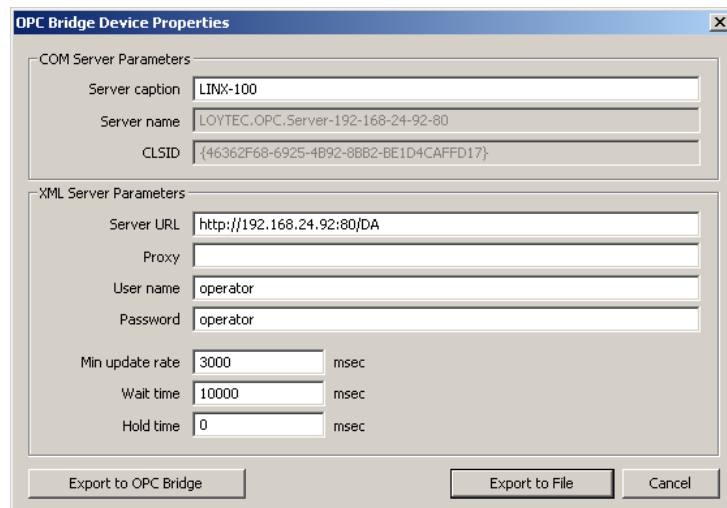

Figure 183: Bridge Export dialog.
4. In the **OPC Bridge Device Properties** dialog as shown in Figure 183, add information which is not default, i.e., Min update rate, Wait time and Hold Time (see Section 9.3.6). If the operator user has a non-default password, enter the password.